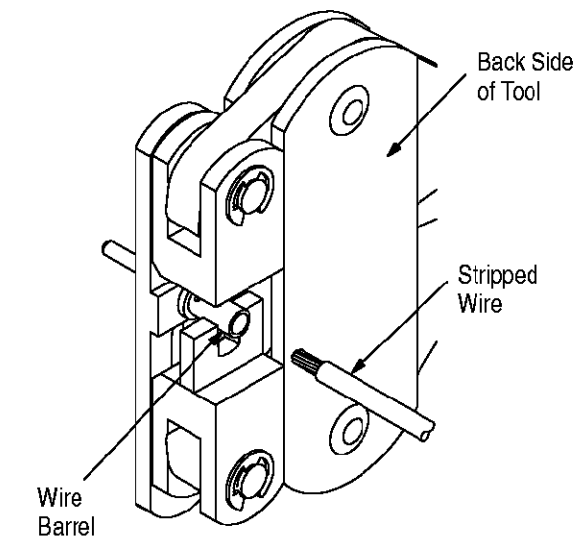

Figure 4
5. Insert stripped wire into the contact wire barrel until the insulation on the wire butts against the wire barrel. See Figure 4.